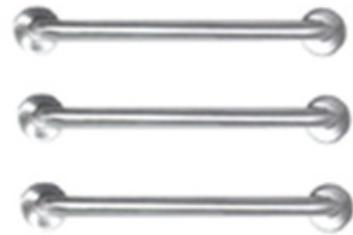

**Figure 7**
9. Finish wall board as detailed in Figure 7.